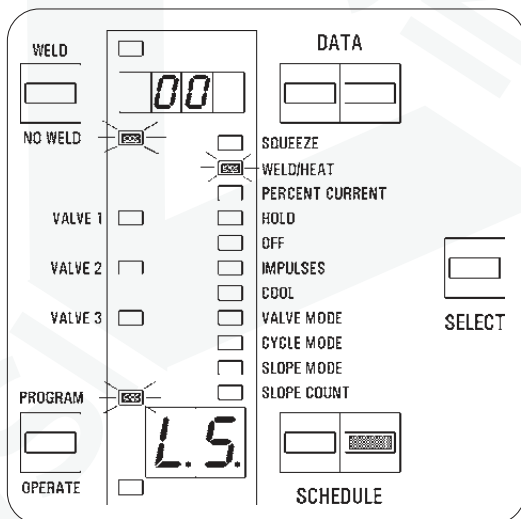

Figure 7-4. Program LAST STEP
- Press the SCHEDULE push buttons to find **L.S.** in the SCHEDULE display, as shown in Figure 7-4.
- Program the desired LAST STEP for this stepper; e.g., for stepper **A**, LAST STEP in STEPPER mode **01** may be any number from **00** to **09** (see Figure 7-4); but in STEPPER mode **02**, it may be any schedule number from **00** to **49**. In fact, this value will be first step at beginning of the weld sequence. This value will be reset or reprogrammed after resetting the stepper.